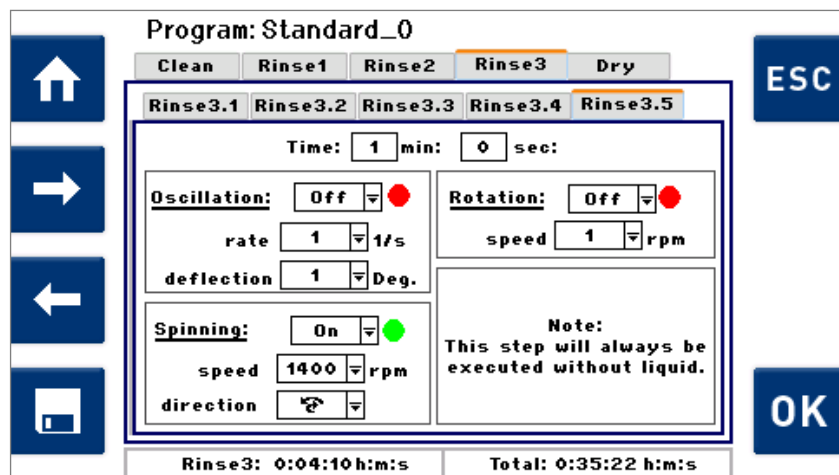
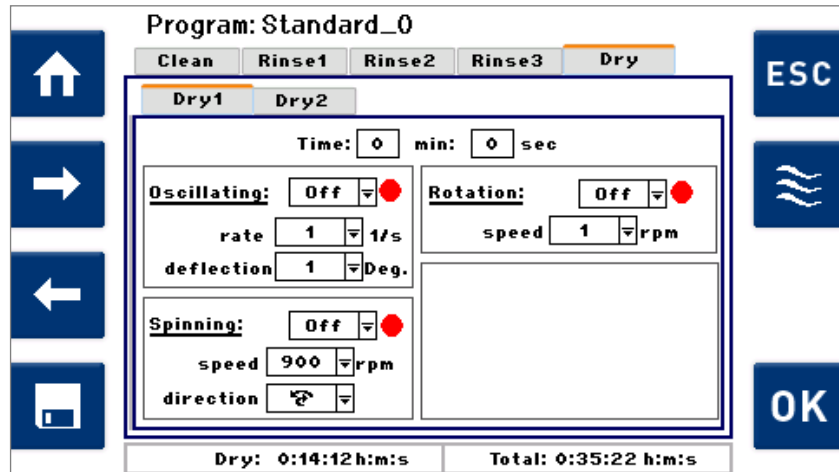

Fig.16.4 Screenshot of the options for *Rinse3.5* (analogous display for *Rinsex.5*, x=1, 2, 3).
Fig.16.5 Screenshot of the options for *Dry1*.
The then still to be evaporated (using vacuum and cleaning chamber wall heater) amount of the last rinsing medium on the parts and rotating basket surfaces is then determined by the duration and effectiveness of the preceding spinning sequences in *Rinsex.5* (Fig. 16.4) and *Dry1* (Fig. 16.5).
2. an as high as possible rotation speed (up to 1400 rpm) and a spinning duration with direction change where liquid is still spun off (usually a total of 40 = 2x 20 seconds) must be programmed in Dry1 (*Fig. 16.4*).